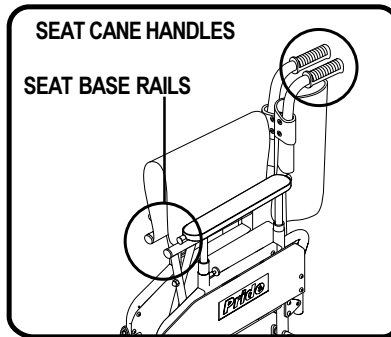

Figure 6. Lifting Points
2. With one hand, grab and squeeze together both seat cane handles. See figure 6.